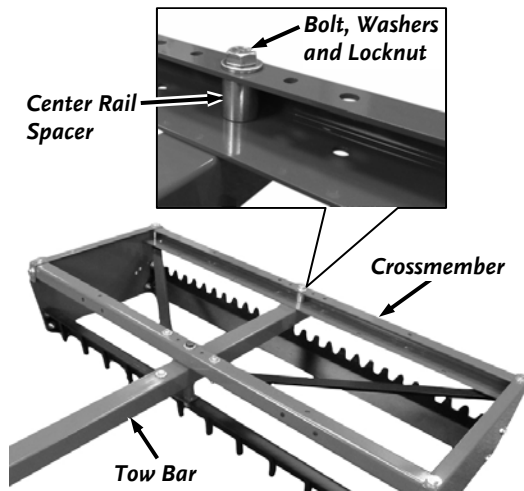

Figure 9
11. Secure the rear of the Tow Bar (**Figure 9**) with a 1/2-13 X 4.5" Bolt, 1/2" Washer, Center Rail Spacer (inserted into Crossmember), 1/2" Washer and 1/2" Locknut. Tighten with two 3/4" Wrenches.